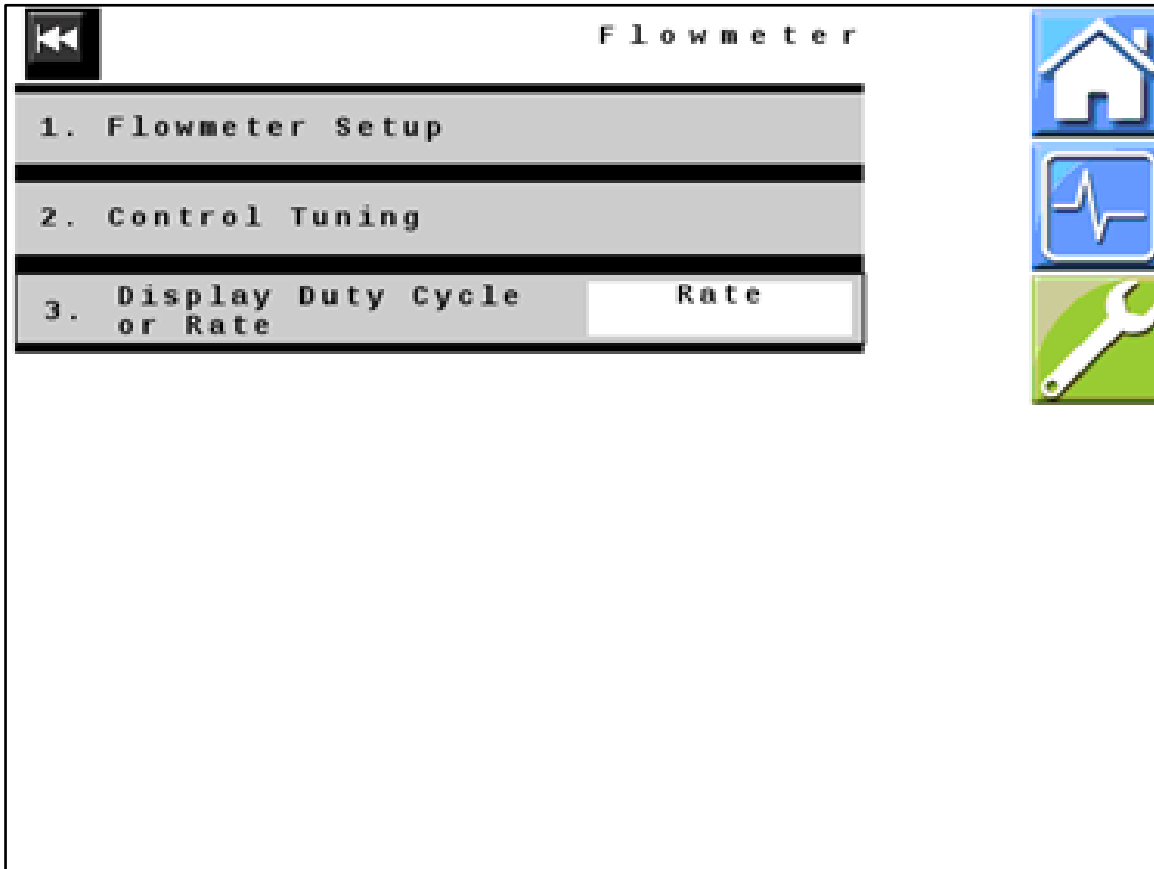

Figure 19 — Flowmeter
35. *Figure 19:* Verify that all values displayed on your unit match those shown here. Change values if necessary.